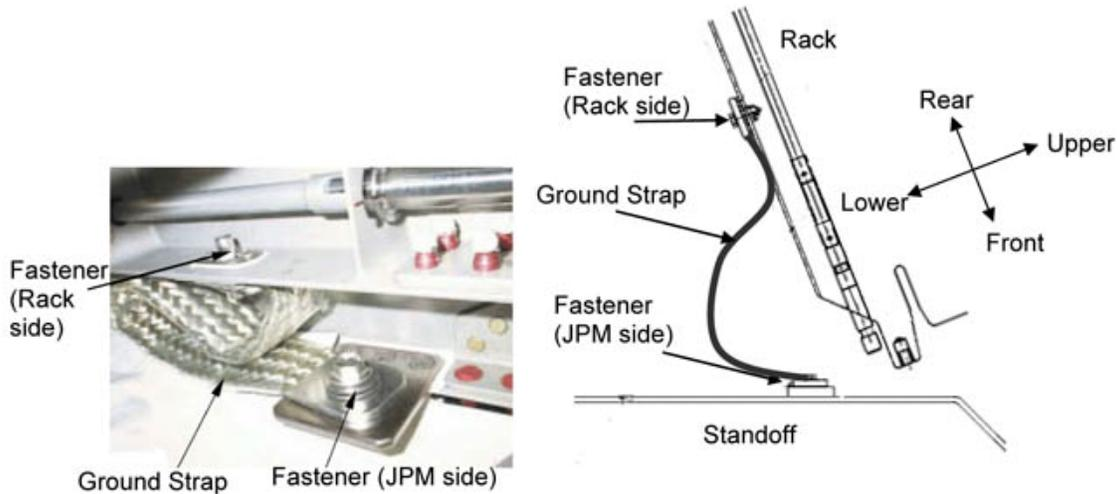

Figure 7. - Ground Strap Installation.
- 8.3 JEM Ground Strap JAXA Rack →|← Standoff, 1/4 Turn Attachment fastener (Ratchet, 3/8" Drive; 13 mm 6 Pt Socket, 3/8" Drive). Refer to Figure 7.
- 8.4 JEM Ground Strap JAXA Rack →|← Rack, 1/4 Turn Attachment Fasteners (Ratchet, 3/8" Drive; 13 mm 6 Pt Socket, 3/8" Drive). Refer to Figure 7.